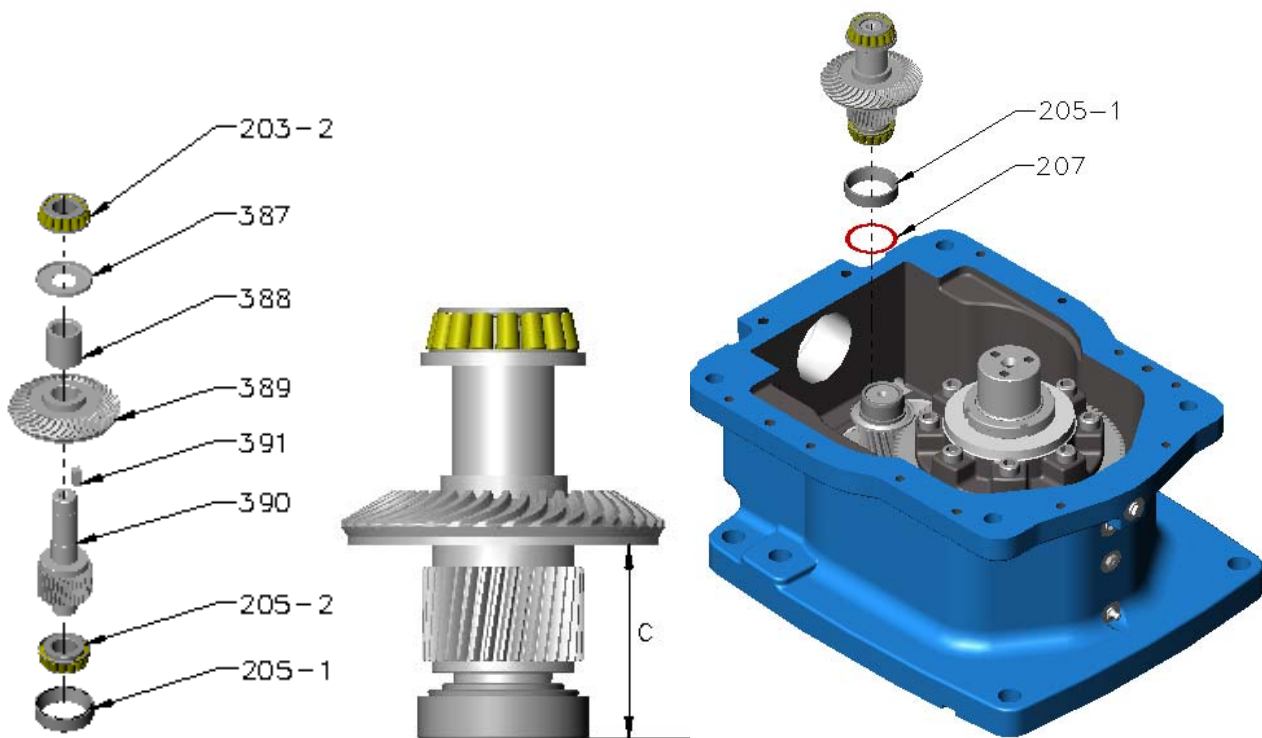
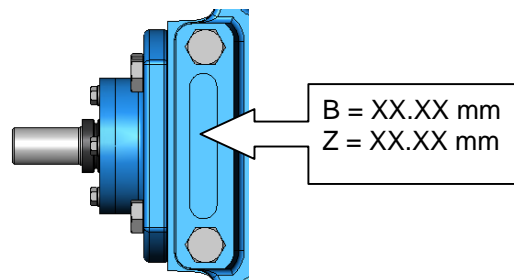
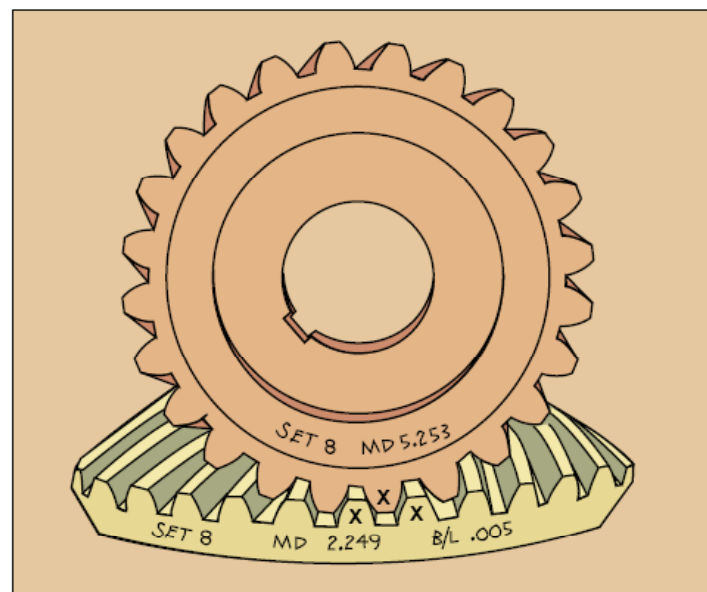

Figure 19 – First intermediate shaft
Figure 20 – Cartridge Setting Measurements
Figure 23 – Spiral Bevel Markings
- L. First intermediate shaft assembly (refer Figure 19)
- (1) Install bearing cone [205-2]
- (2) Press spiral bevel gear [389] with key [391] and the following items on to the shaft [390]:
- (3) Install bearing cup [205-1]
- (4) Measure distance 'C' from bottom of the bevel gear [389] to bottom surface of the bearing cup [205-1].
- (5) **Number of shims required = Z – (C + MD)**
- Where, 'Z' is the distance specified on the gear case lid in mm and 'MD' if the mounting distance scribed on the gear in mm (as shown in Figure 20)
Where, 'B' is the distance in mm specified on the gear case lid (as shown in Figure 20) and 'MD' is the mounting distance in mm scribed on the gear (as shown in Figure 23)
- R. Insert spiral bevel cartridge [370] along with appropriate number of shims [382] in the bore. Make sure that the 'X' marks on the bevel pinion and gear teeth match (as shown in Figure 23).